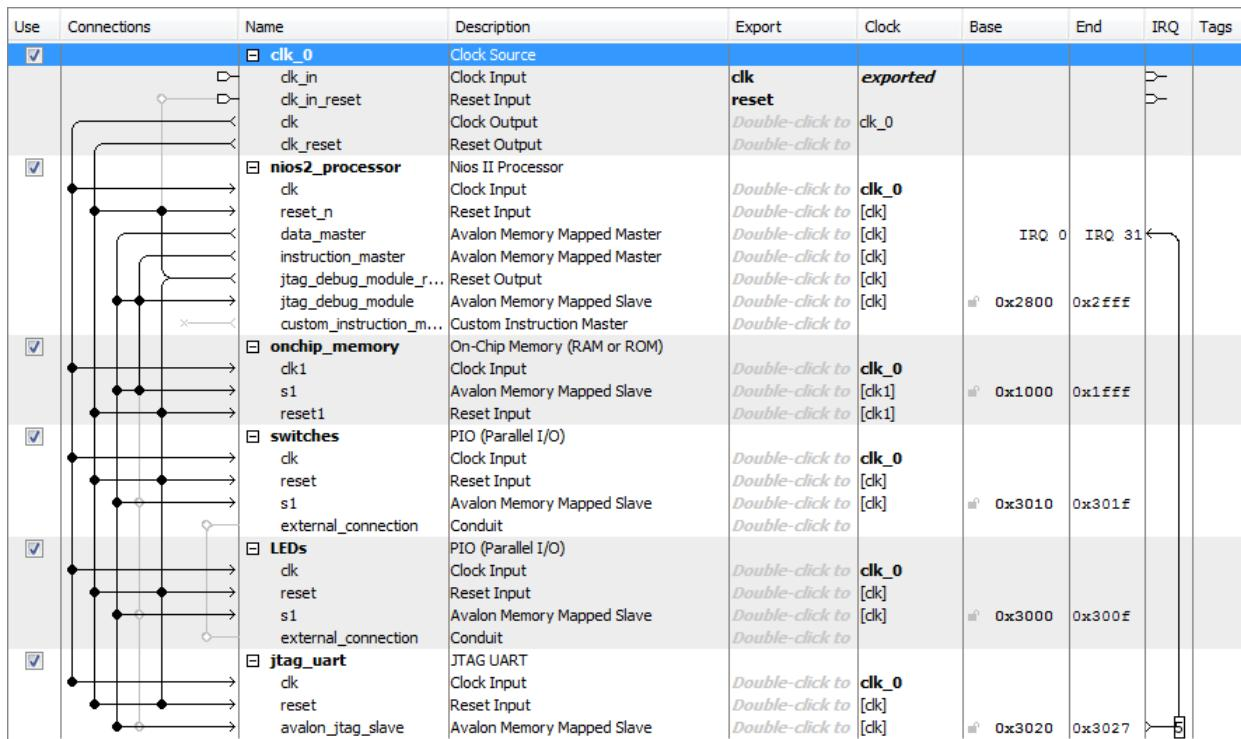
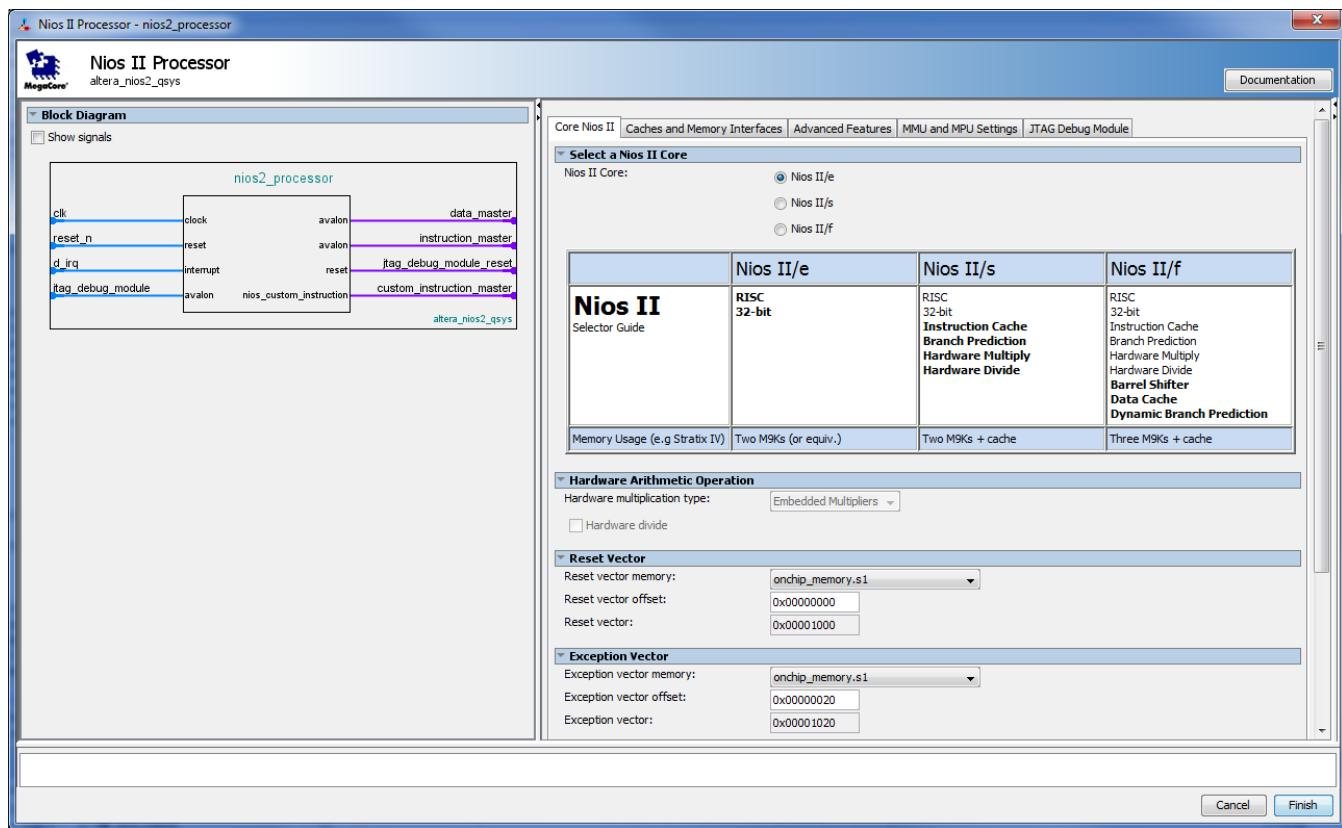

Figure 17. The system with assigned addresses.
Figure 18. Define the reset and exception vectors.
12. Observe that the base and end addresses of the various components in the designed system have not been properly assigned. These addresses can be assigned by the user, but they can also be assigned automatically by the Qsys tool. We will choose the latter possibility. Select **System > Assign Base Addresses** (at the top of the window), which produces an assignment similar to that shown in Figure 17.
- Right-click on the *nios2_processor* component in the window displayed in Figure 17, and then select **Edit** to reach the window in Figure 18
- Select *onchip_memory.s1* to be the memory device for both reset and exception vectors, as shown in Figure 18